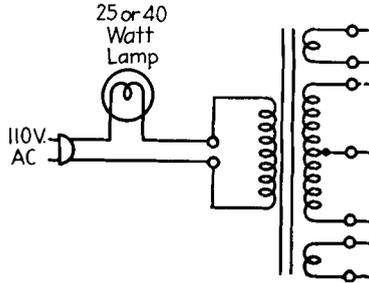

FIG. 8-5. Checking the power transformer.
2. Plug the radio into an outlet that contains an ordinary 25- or 40-watt lamp in series with the line, as shown in Fig. 8-5.